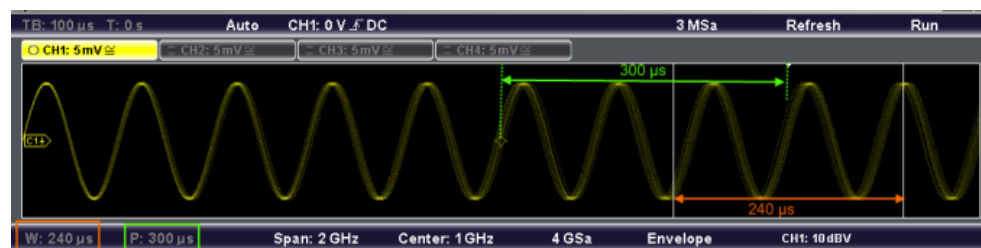

Fig. 8-1: Width and position of the time base extract for FFT calculation
The display can be restricted to the results for a certain time base extract and to a specified frequency range. The time range is indicated by white lines in the Y(t)-diagram (see also figure 8-1).
2. Define the time base extract for which the FFT is to be calculated and displayed. The extract is defined by its width and position (see figure 8-1).
- b) Press "Position" to define the position of the time base extract. The position is defined as an offset of the center of the extract range to the 0s reference point. The time base extract is indicated by a white frame in the Y(t)-window. The width (W) and position (P) are indicated in the information bar beneath the Y(t)-window.
1. Define the time base extract for which the FFT is to be calculated and displayed. The extract is defined by its width and position (see figure 8-1).